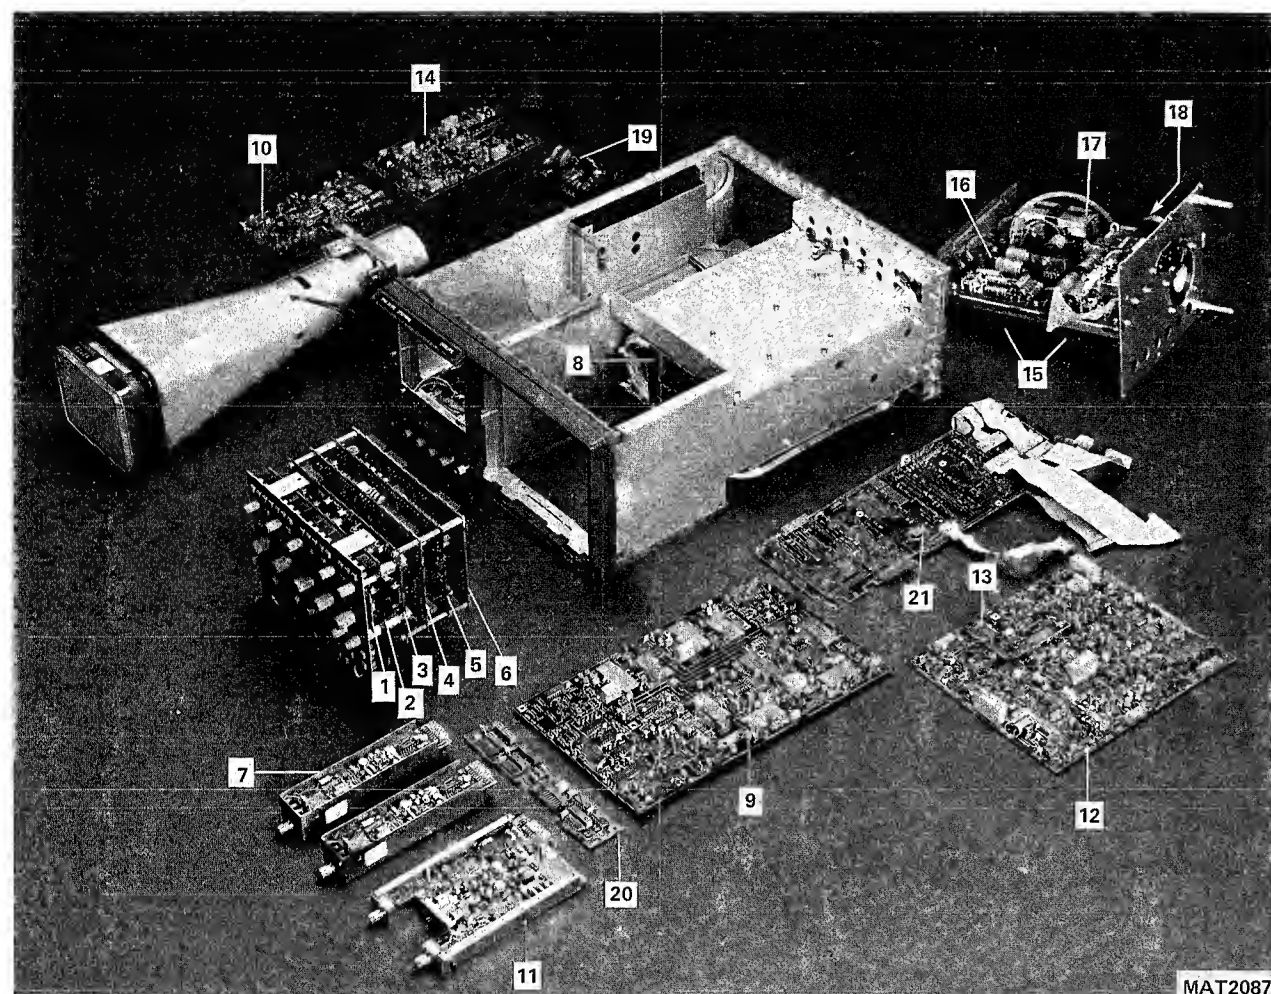

Fig. 28.5 Survey of UNITS
28.2 UNITS (fig. 28.5, unless otherwise stated)